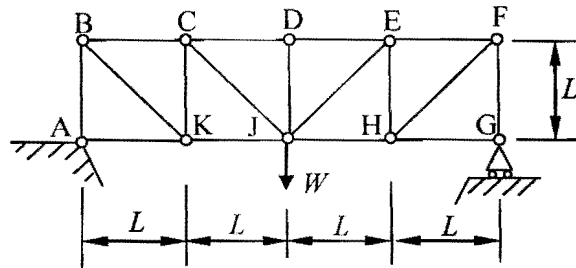

Fig. 4
* 4. All the bars in Fig. 4 have cross-sectional area A and Modulus of Elasticity E .
† 6. For the plane truss shown in Fig. 4, find the axial forces caused by a vertical unit load $P^* = 1$ acting downwards at C. Hence use virtual work to find the vertical displacement of C due to a vertical load W acting at J as shown in Fig. 4. (Hint: you should already have found the bar extensions due to W , in solving Question 4).
7. For the truss shown in Fig. 4, with a vertical load W applied downwards at joint J, use virtual work to find: